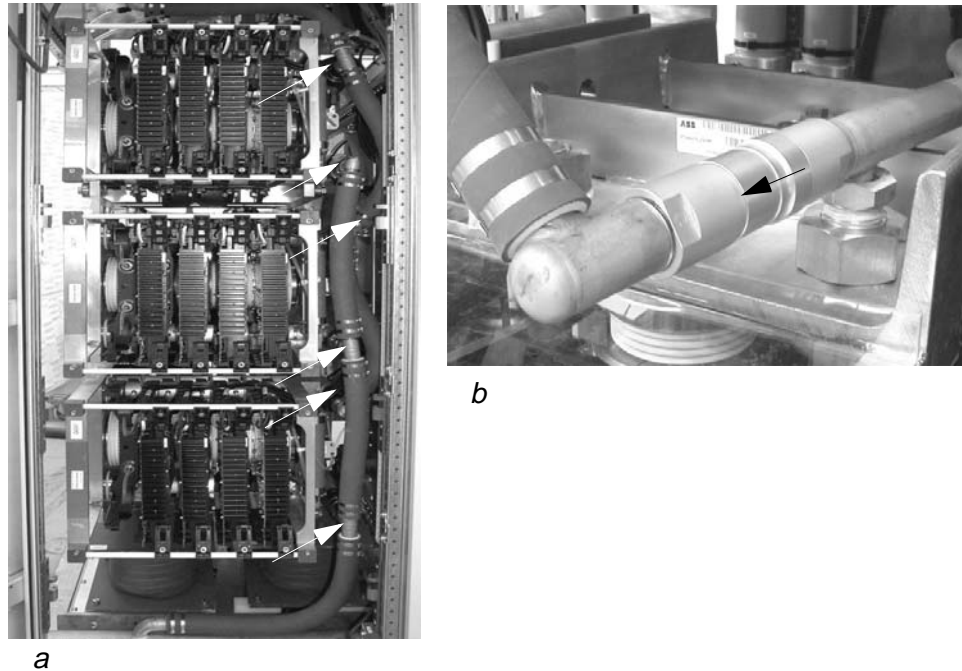

Figure 4-3 Water Hose Couplings
- 4 Disconnect all cooling water input and output couplings of the three phase modules (see arrows in *Figure 4-3 a*). To disconnect the water hose pull the locking sleeve of the coupling towards the front of the cabinet (see arrow in *Figure 4-3 b*).